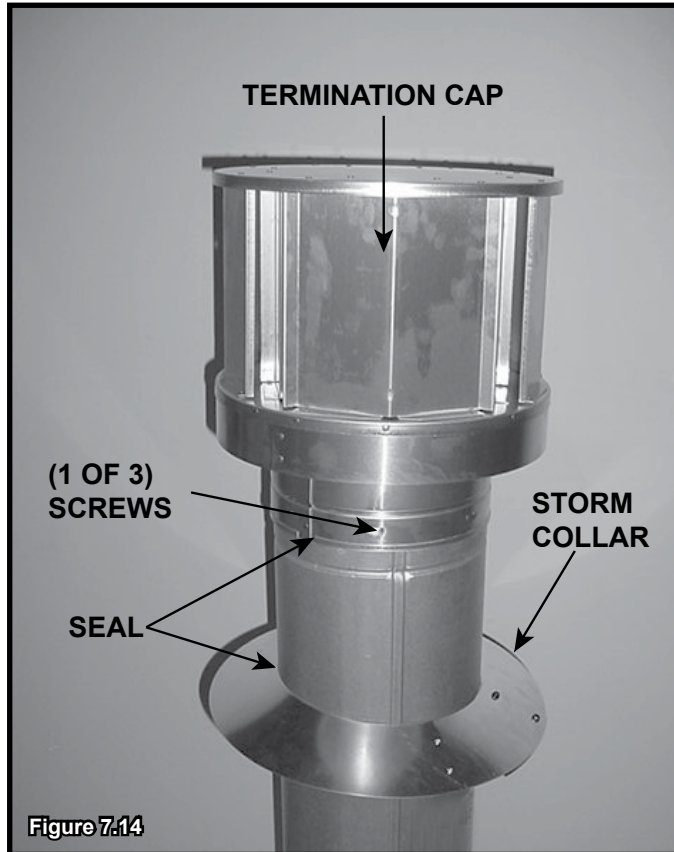

Figure 7.13 Insert Bolt into Brackets
- Insert a bolt (provided) through the brackets and install nut. Do not completely tighten. See Figure 7.13.